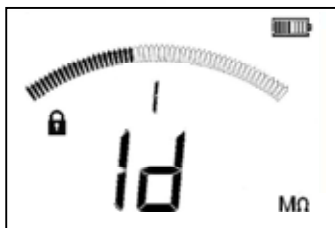

Figure 15 DAR recall results
Figure 15 illustrates the displays, which will be shown during a Dielectric Absorption Ratio (DAR) test result recall.
3. The test result will be displayed. To scroll through the different measurements used in calculating the PI or DAR ratio, use the [▼] only button. See figure 15 screens B to E.